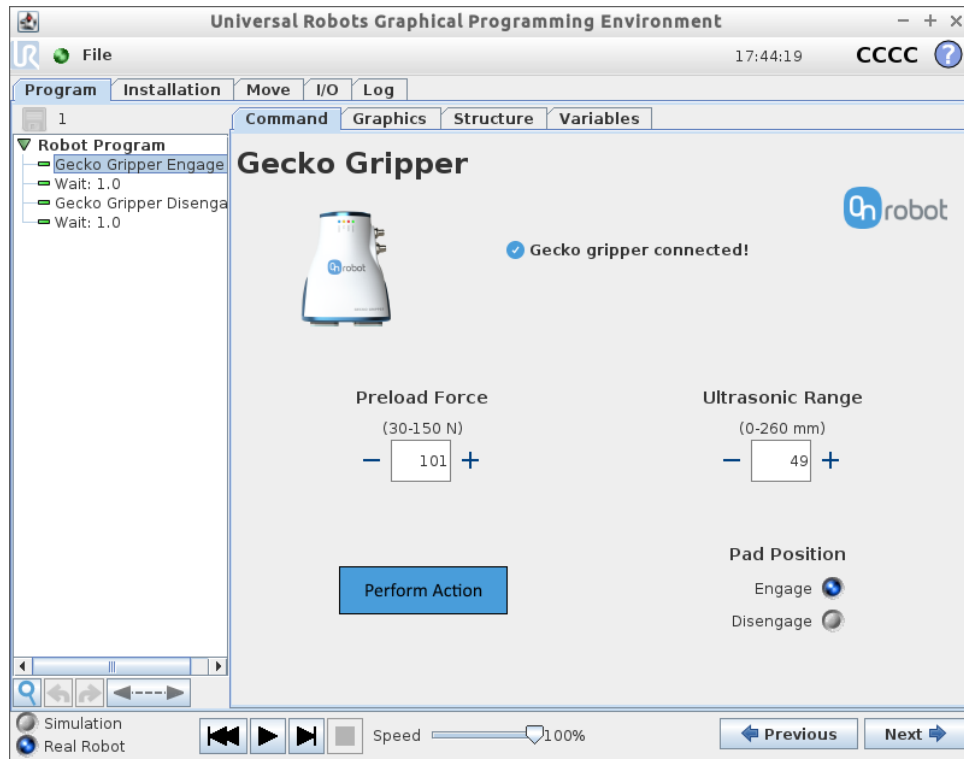

Figure 6: Gecko Gripper URCap screen
Step 2: Navigate to the main UR Cap screen under the “Program” tab → “Command” tab in the UR GUI. If the gripper power and Ethernet cables are properly connected to the UR, then the URCap will display the message “Gecko gripper connected!” (Figure 6). If there is a problem with either of these connections, the URCap will display the message “Failed to connect to the gecko gripper”.